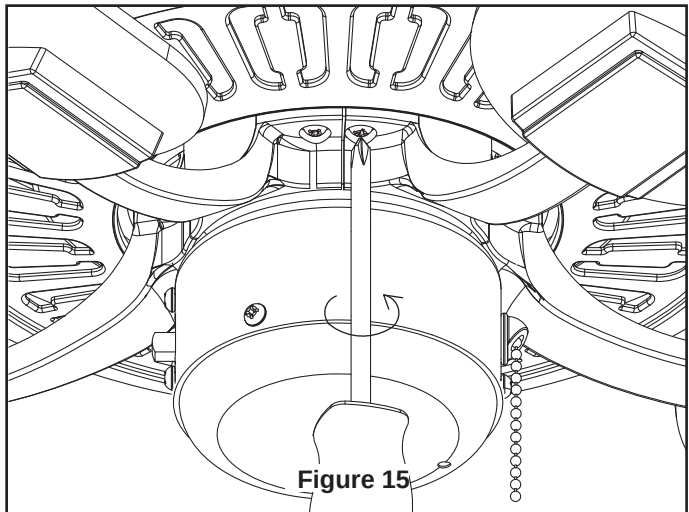

Figure 15
2. Secure the blade holders to the motor support using the 1/4-20 x 14 mm screws through the holes located on the side of the motor support. (Figure 15)